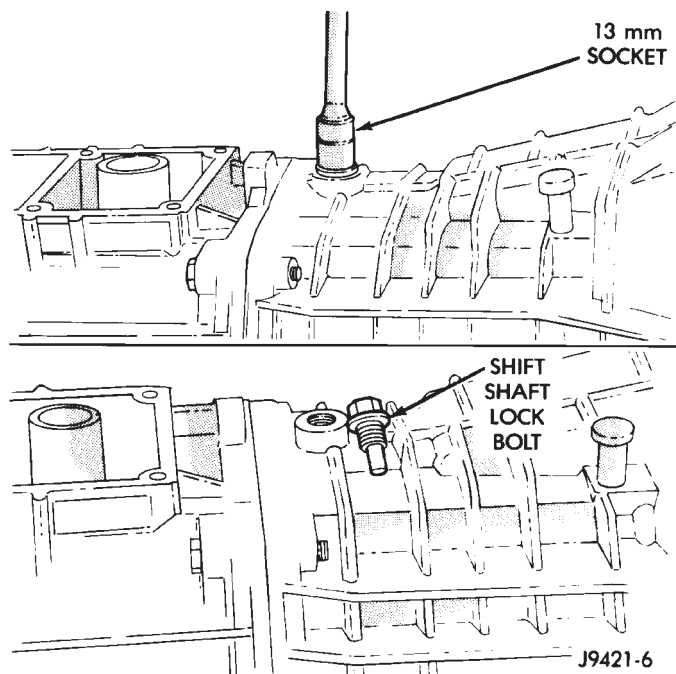

Fig. 10 Shift Shaft Lock Bolt Removal
(5) If necessary, remove shift tower bolts and remove tower and lever assembly.
(6) Remove shift shaft lock bolt (Fig. 10). Bolt is located at top of front housing just forward of shift tower. Bolt is a shoulder bolt that secures the shift shaft bushing and lever.